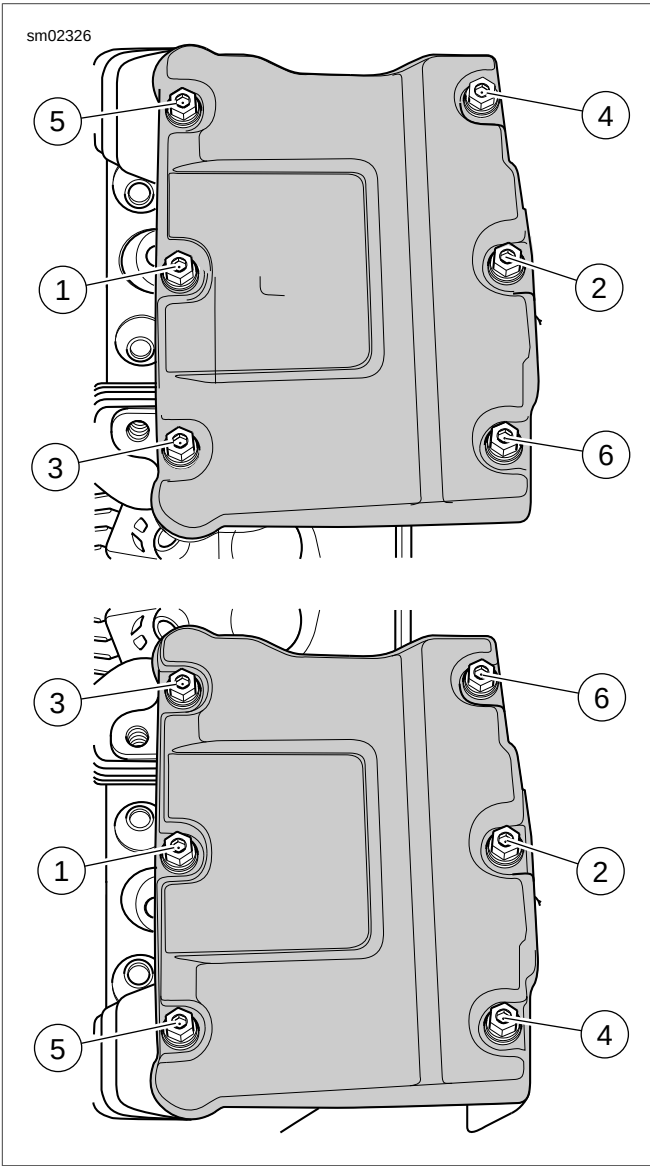

Figure 3-18. Rocker Cover Bolt Removal Sequence
2. See Figure 3-18. Following the sequence shown, alternately loosen the six rocker cover bolts. Remove the rocker cover bolts and their captive washers.